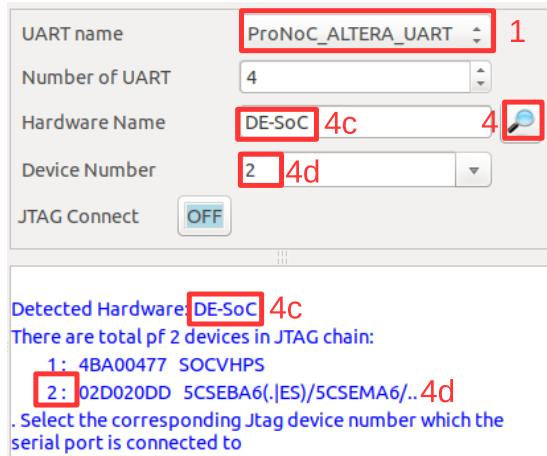

Figure 11.2: Altera FPGA configuration setting.
- (c) For Altera FPGAs (see Figure 11.2) set the `Hardware name`.
- (d) For Altera FPGAs you need to set the FPGA device target number in the JTAG chain. Figure 11.2 shows an example for DE10-Nano Altera FPGA board. The FPGA device is `5CSEBA6U23I7` which is the *2nd* target in jtag chain.